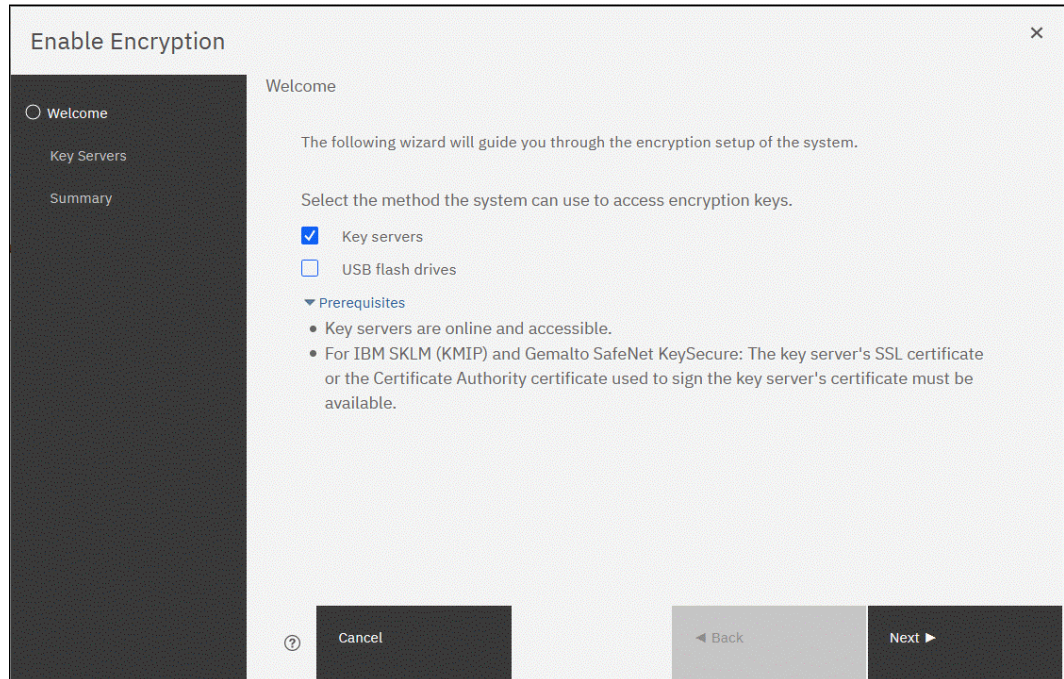

Figure 12-38 Selecting key servers as the only provider in the Enable Encryption wizard
2. In the Enable Encryption wizard **Welcome** tab, select **Key servers** and click **Next**, as shown in Figure 12-38 on page 767.